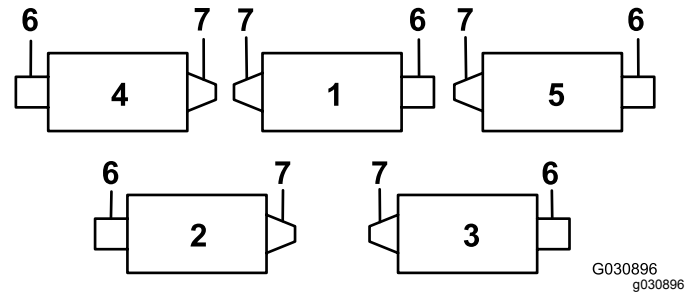

Figure 6
**Important:** On cutting unit 4 (left front) and cutting unit 5 (right front), use the rod-bracket-mounting nuts to install the hose guides to the front of the cutting-unit tabs (Figure 6 and Figure 7). The hose guides should lean toward the center cutting unit (Figure 7 and Figure 8).